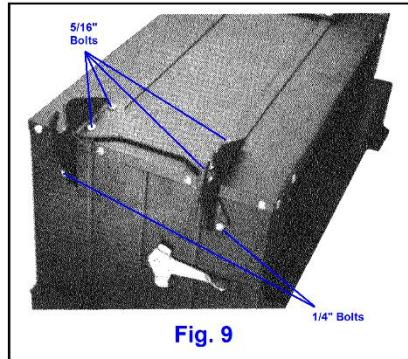

Fig. 9
4. Mount trunnion brackets on each end of stand (Fig. 9), using four 5 16-18 x 5/8 hex head bolts with 11/32 x 11/16 plain washers and 5/16 lock-washers and nuts on the underside to attach each bracket to deck. Leave these bolts finger tight.